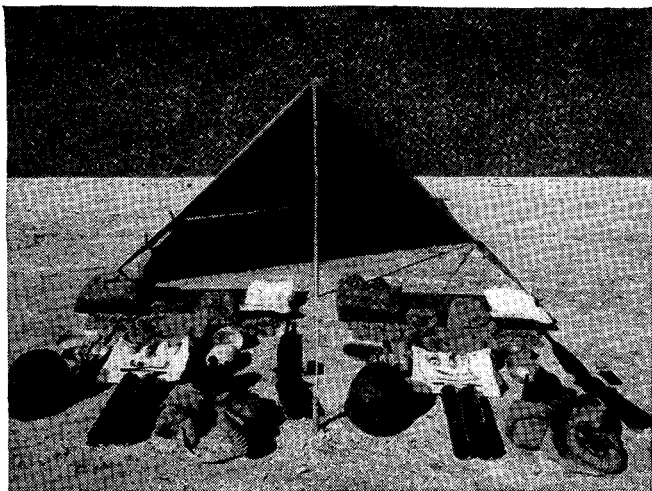

FIGURE 50.—Display of individual equipment.
b. For display of individual equipment see figure 50.